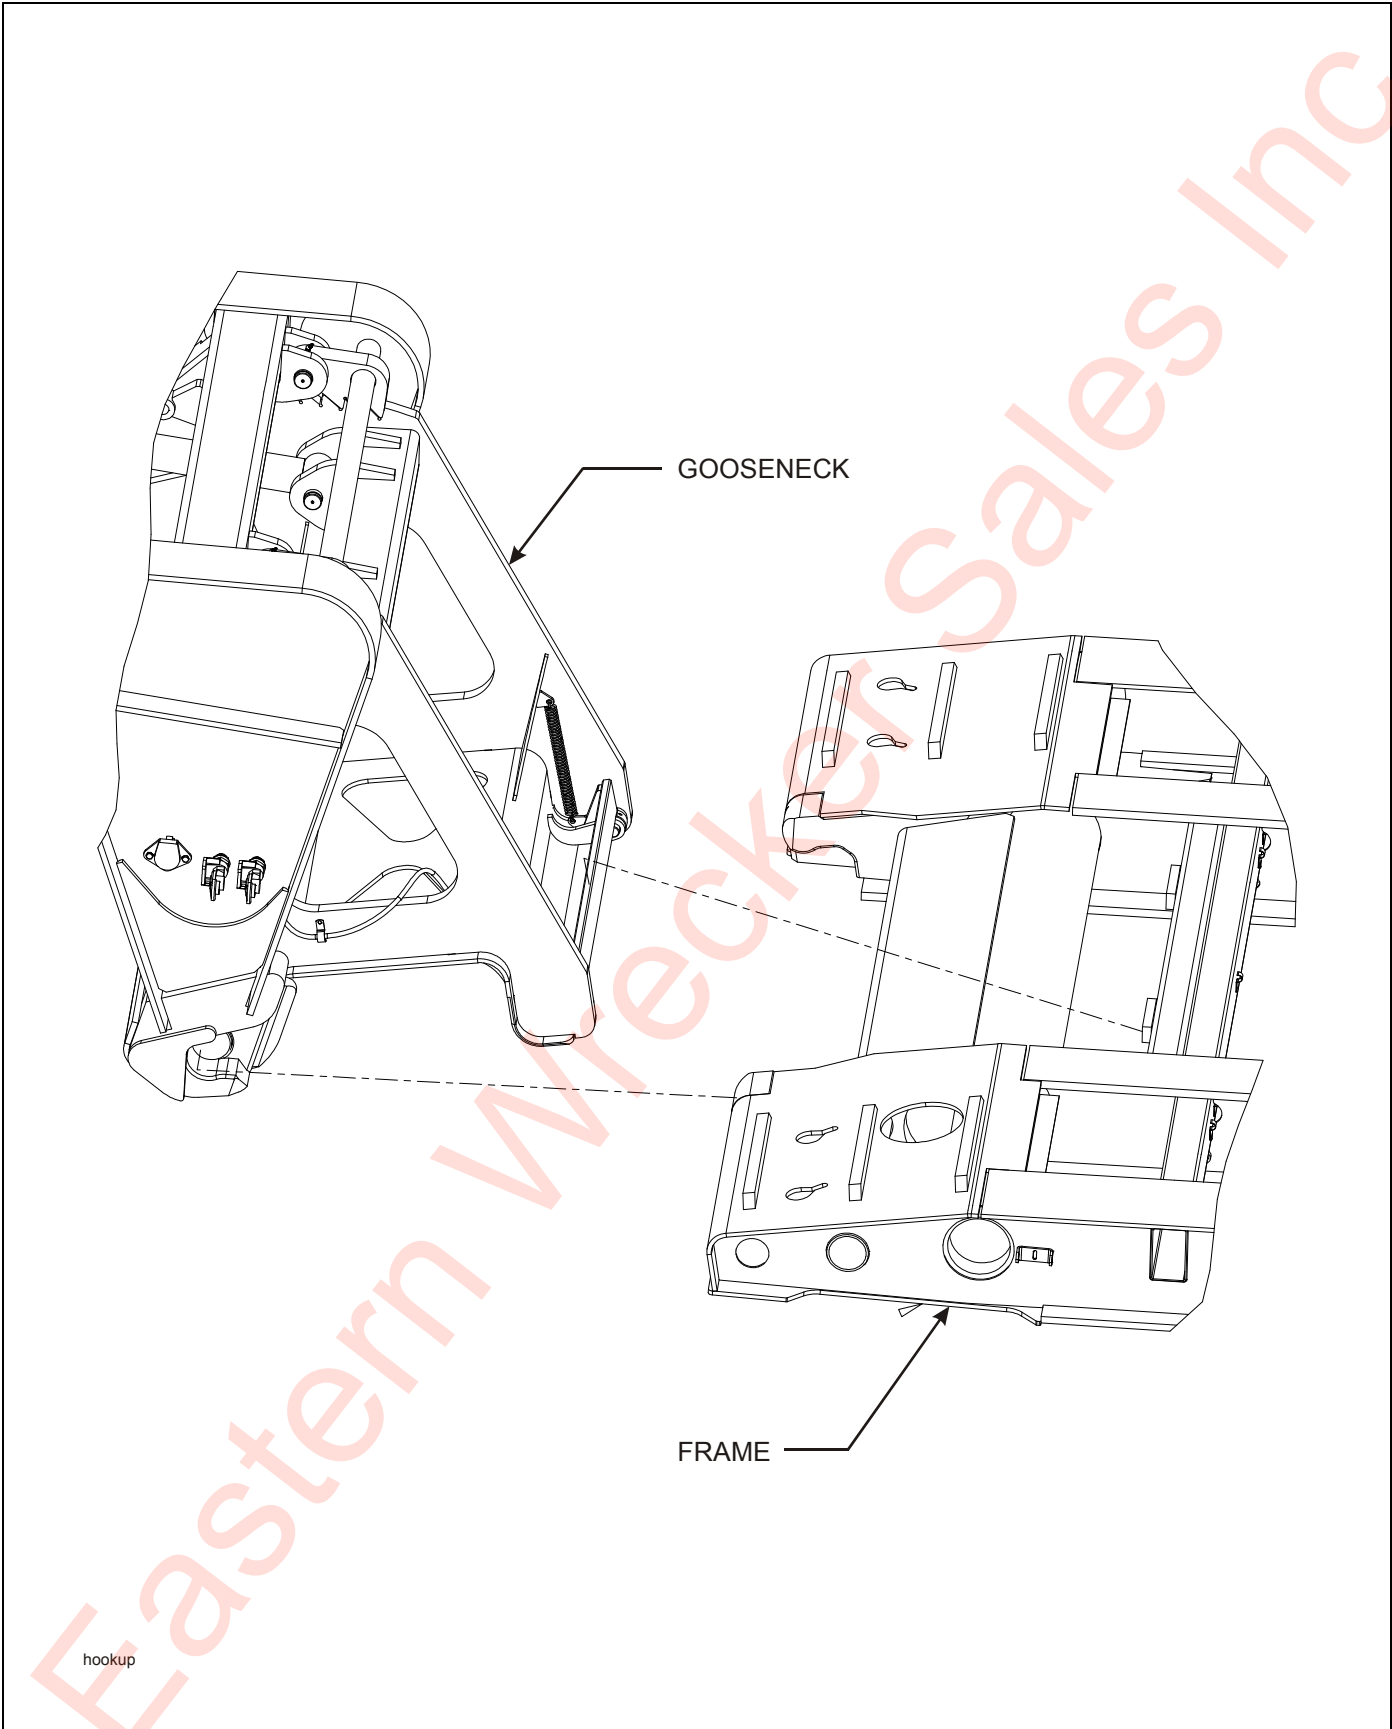

Figure 3-6: Gooseneck Attachment to Frame
2. Park the tractor/semitrailer in a straight line on level even surface. Set the tractor brakes and release the semitrailer brakes (**See Figure 3-6.**)